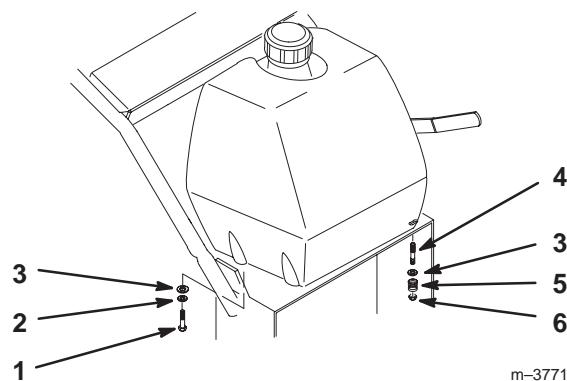

Figure 11
1. Align fuel tank to top of rear frame and secure fuel tank right side with 2 bolts (5/16 x 7/8 in.), 2 lock washers (5/16 in.) and 2 washers (5/16 in.) (Fig. 11).
2. Secure fuel tank left side to frame with 2 studs (5/16 x 7/8 in.), 2 washers (5/16 in.) and 2 locknuts (5/16 in.) (Fig. 11).